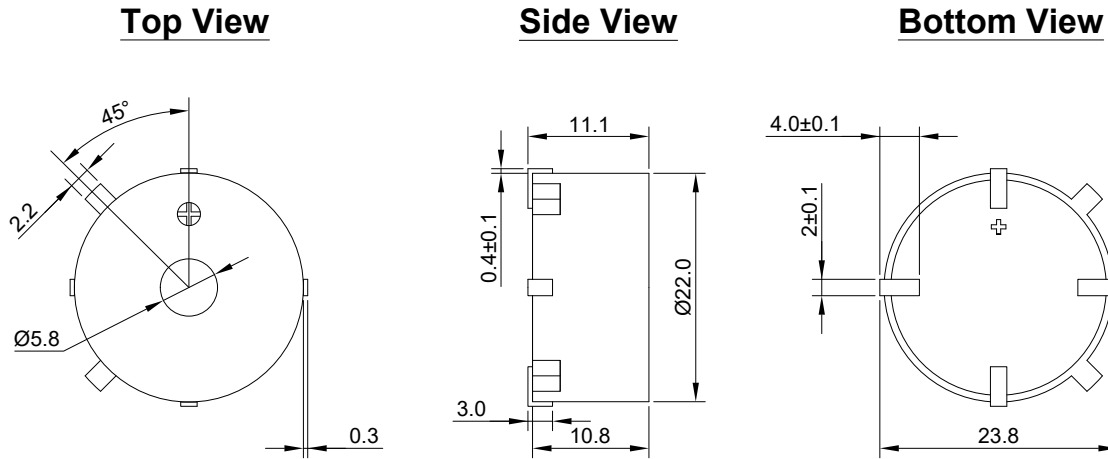

Figure 4. HPS22A Mechanical Layout
- 4.3.1. Layout and Dimension : See Section 7, Figure 4